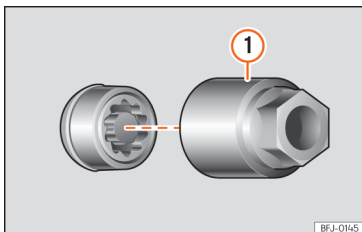

Fig. 195 Anti-theft wheel nut with cap and adapter.
- Insert the special adapter **»» Fig. 195 ①** (vehicle tools **»» page 251**) onto the anti-theft wheel nut and push it on as far as it will go.